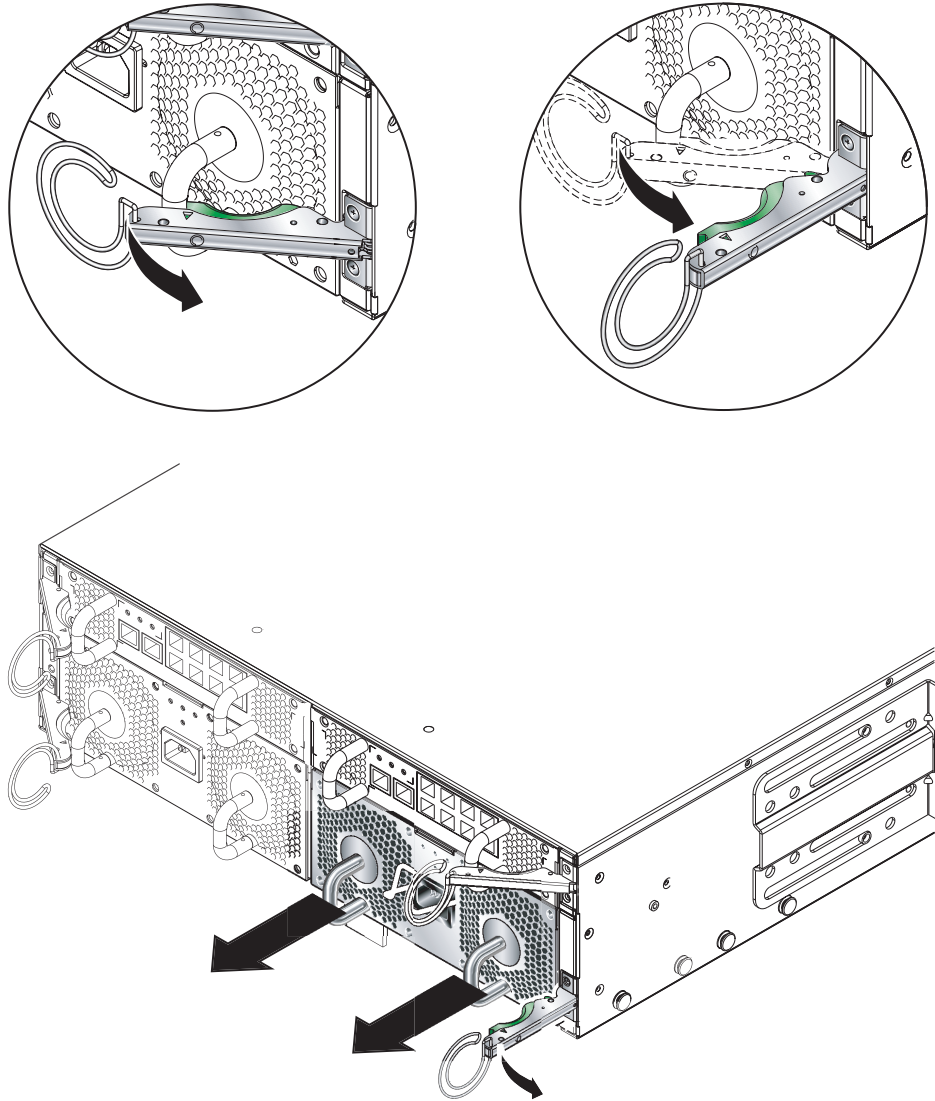

FIGURE 12-14 The PSU ejector lever
3. Squeeze the green PSU ejector lever to unlatch it and pull the lever towards you to disconnect the PSU from the system chassis (FIGURE 12-14).